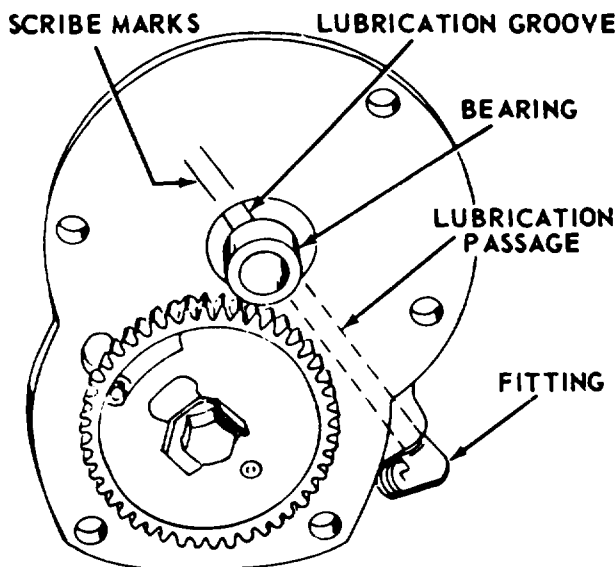

Figure 8-40. Removing fuel regulator rack bearings
e. Using a suitable removal tool, remove camshaft bearing (63).
f. When removing fuel regulator rack bearings (62 and 65, figure 8-39), first make two scribe marks on housing above groove on bearing (figure 8-40). This procedure allows for the alignment of groove on bearing with drilled lubrication passage during reassembly.